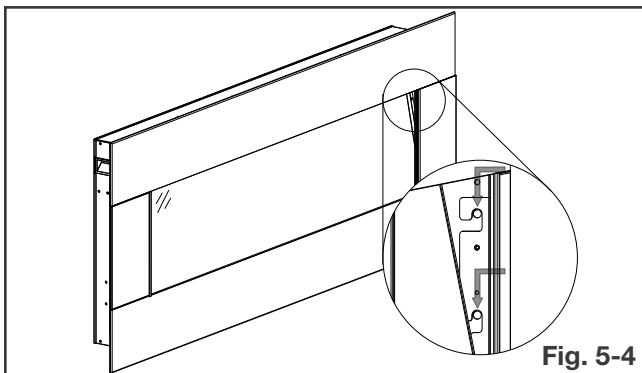

Fig. 5-4
- Lift the front surround onto the appliance (Fig. 5-4).